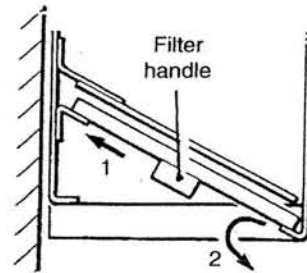

Fig. 6
To remove the filter, see Fig. 6. Slide it up towards the back of the unit (1) then slide the filter forwards and down out of the unit (2).